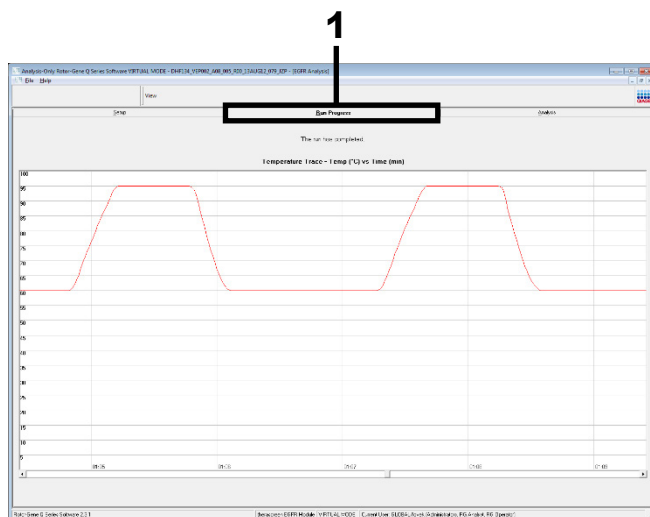

Figure 7. The "Run Progress" tab (1).
**Note:** When the run starts, the "Run Progress" tab opens to show the temperature trace and remaining run time (Figure 7).